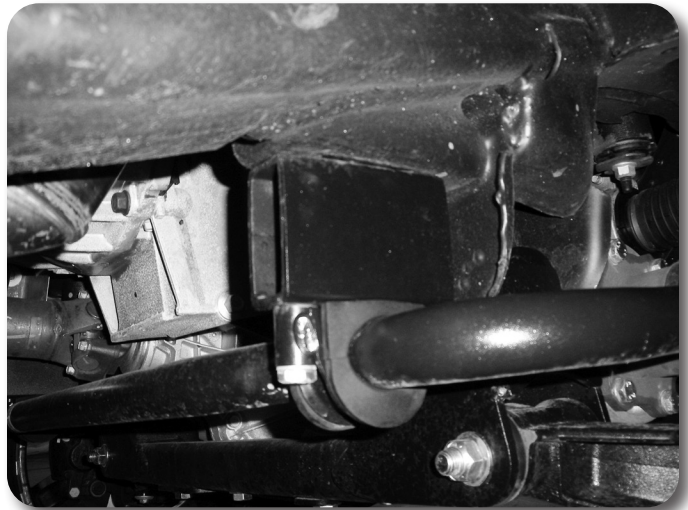

Figure 39
77. Attach the front sway bar to the original mounts in the stock orientation in conjunction with the provided drop brackets and 10mm x 130mm bolts/washers for 6.5" kits or 10mm x 80mm bolts for 4.5" kits . Use Loctite on the bolt threads and torque to 45 ft-lbs Figure 39.